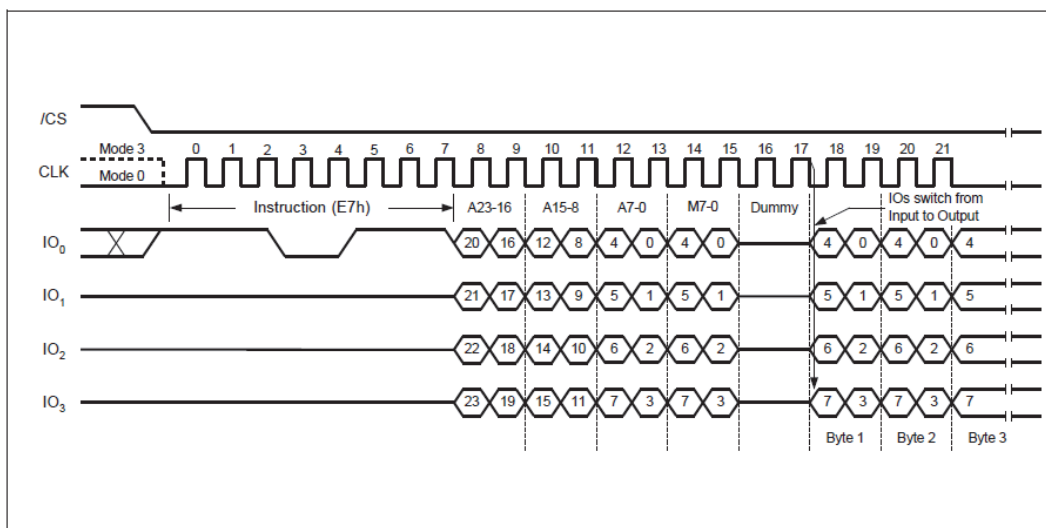

Figure 21, Quad I/O Word Fast Read Sequence Diagram (M5-4 ≠ (1, 0))
The Quad I/O Word Fast Read command is similar to the Quad I/O Fast Read command except that the lowest address bit (A0) must equal 0 and only 2-dummy clock. The command sequence is shown in followed Figure 21. The first byte addressed can be at any location. The address is automatically incremented to the next higher address after each byte of data is shifted out. The Quad Enable bit (QE) of Status Register (S9) must be set to enable for the Quad I/O Word Fast read command.